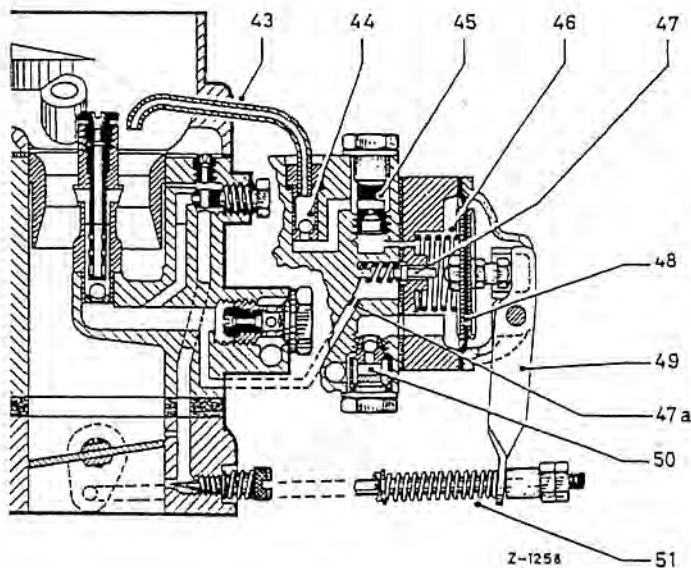

Fig. 07-2/2
The accelerating pump is as before a so-called neutral pump, with which it is possible for the engine under partial load and full load, depending on the depression in the air horn, to draw additional fuel from the pump system without using the accelerating pump. In addition, however, the accelerating pump is fitted with a valve which at a throttle valve position of 65–70° is opened by the pin of the pump diaphragm. In this way, when the engine is under full load, additional fuel flows through the check valve (50), the open valve (47), the enriching jet (47a), and through a fuel canal, by-passing the main jet, directly into the mixing tube holder. In throttle valve positions above 65–70° the fuel air mixture is thus additionally enriched (Fig. 07-2/2).